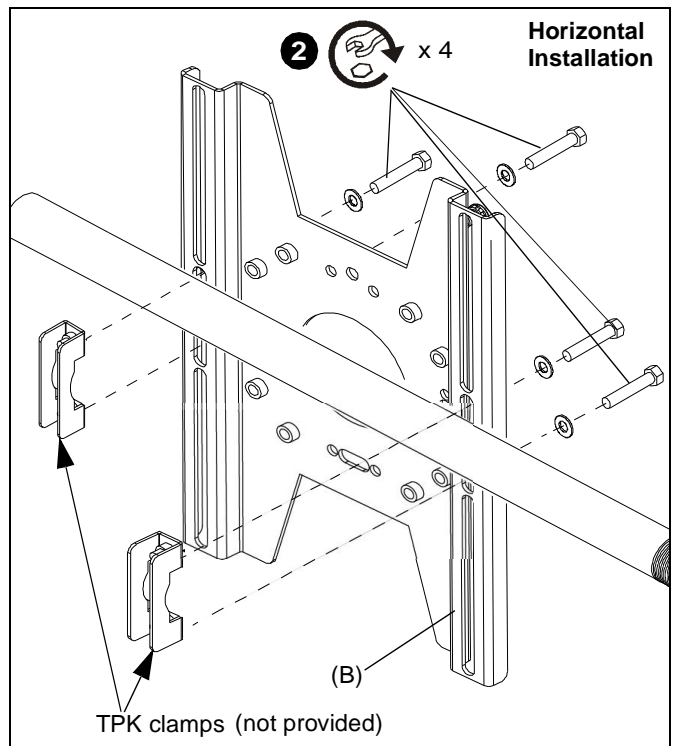

Figure 7
2. Securely anchor truss plate (B) to horizontal pole using Chief TPK accessory clamps (not included) following instructions included with TPK clamp kit. (See Figure 7)